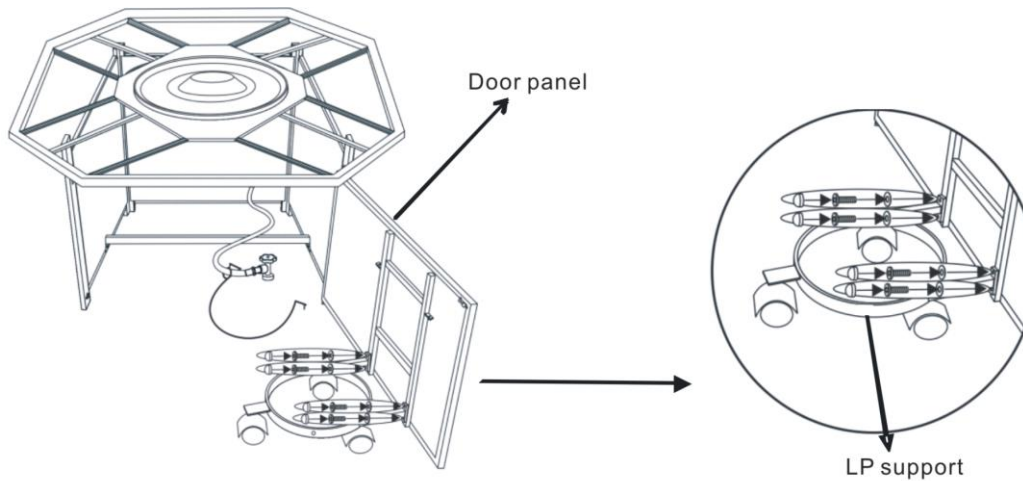

Figure 7
7. Attach the LP support to door panel by using four 1/4"x15 mm bolts and washers as shown in Fig.7. **Do not over tighten.**